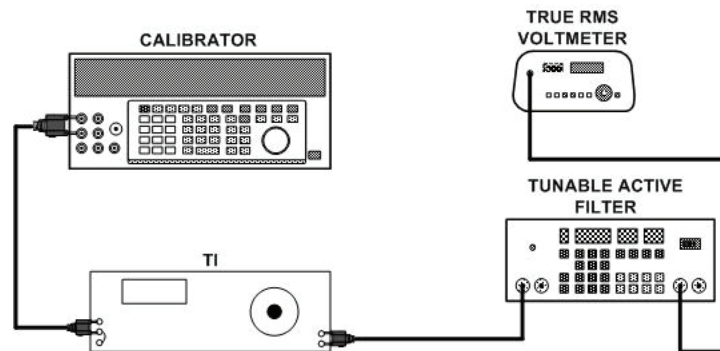

Figure 3. Fundamental frequency rejection - equipment setup.
(1) Connect equipment as shown in figure 3.